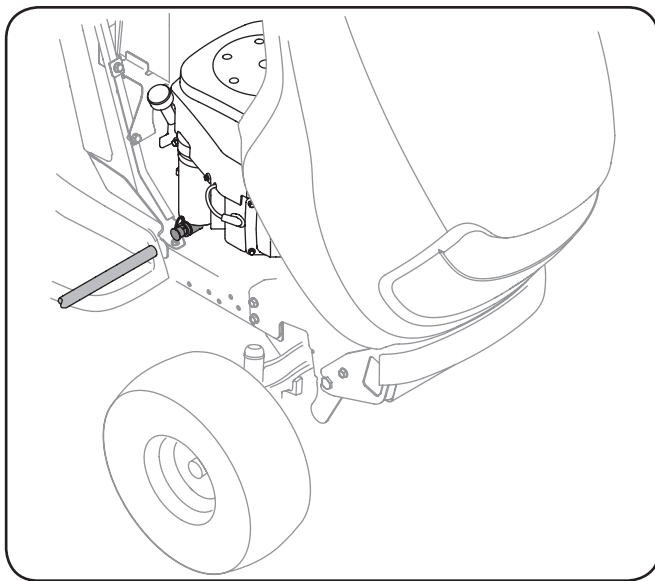

Figure 6-1
3. Pop open the protective cap on the end of the oil drain valve to expose the drain port. See Figure 6-1